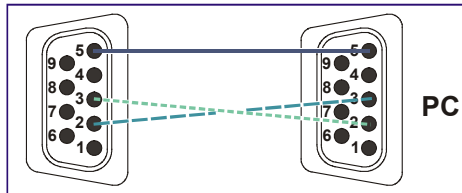

Figure 3: Crossed Cable RS-232 Connection
**Method A (Figure 3)**—Connect the RS-232 9-pin D-sub port on the unit via a crossed cable (only pin 2 to pin 3, pin 3 to pin 2, and pin 5 to pin 5 need be connected) to the RS-232 9-pin D-sub port on the PC.